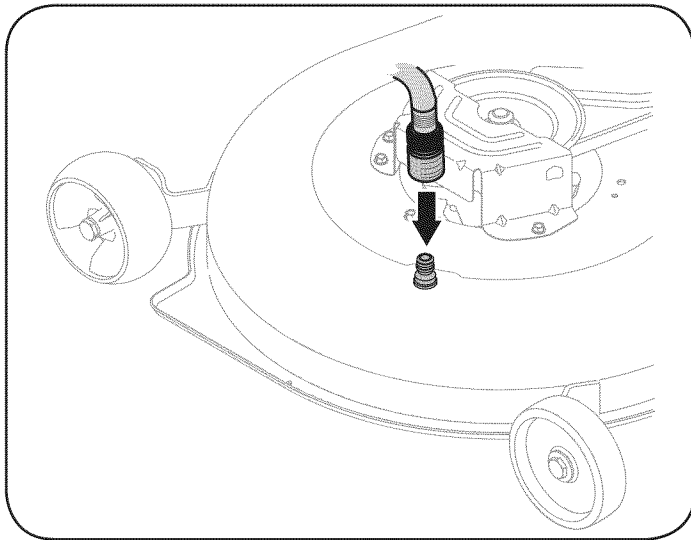

Figure 24
4. Attach the hose coupler to the water port on your decks surface. See Figure 24.